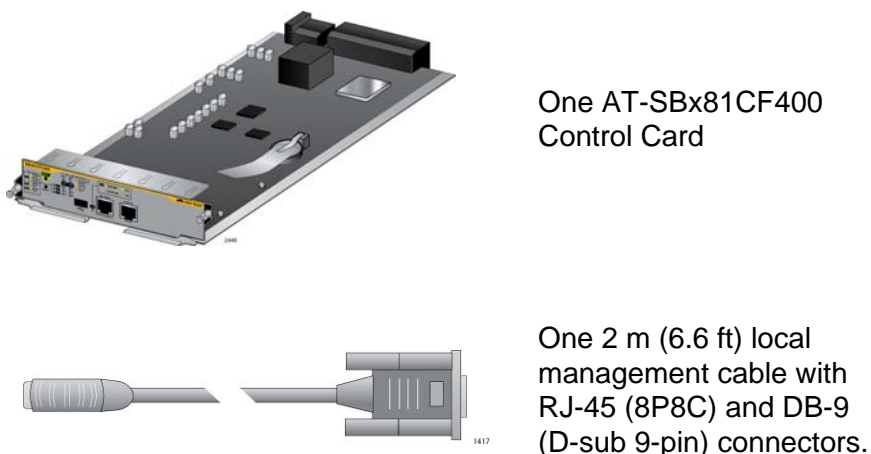

Figure 59. Items Included with the AT-SBx81CF400 Controller Card
2. Remove the new AT-SBx81CF400 Controller Fabric Card from the shipping package and verify the package contents, listed in Figure 59 on page 121.